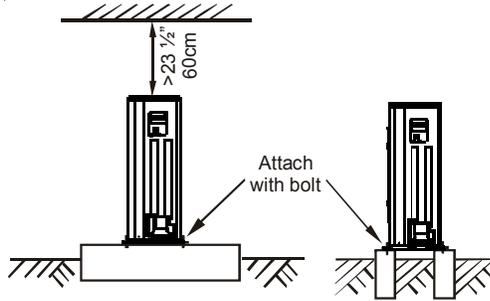

Figure 16
- See Figure 16 for securing the outdoor unit horizontally to a concrete foundation. Fasten the feet of the outside unit securely with bolt to prevent movement of the unit in adverse weather conditions, such as high winds or earthquake.